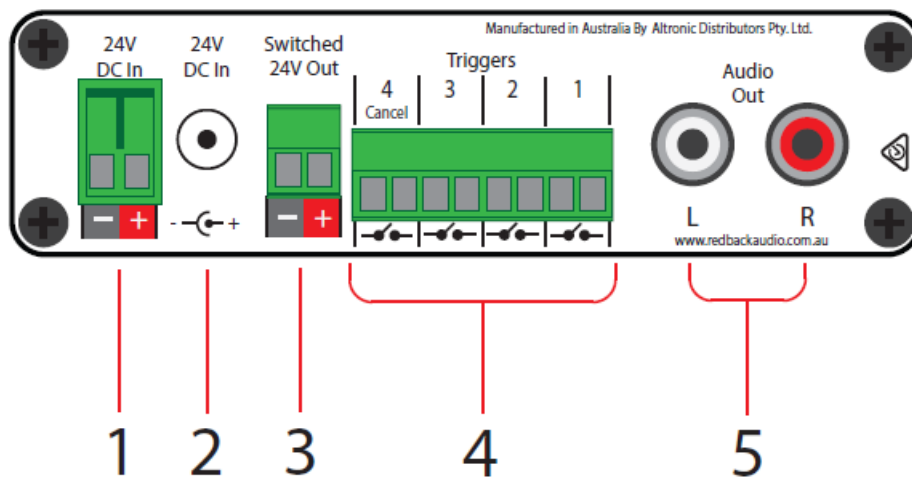

Fig 2
- **Power requirements:** The A 1717 needs a minimum of 24VDC at 300mA to work correctly. Maximum working voltage is 30VDC, do not exceed 30VDC as it will cause permanent damage to the unit. The power is connected via the 2.1mm (tip positive) DC socket on the rear of the unit or via the euro block terminals (see fig 2).
These LED's indicate when the associated message is playing. The messages are activated by using the triggers on the rear of the unit. (See Fig 2 for details.)